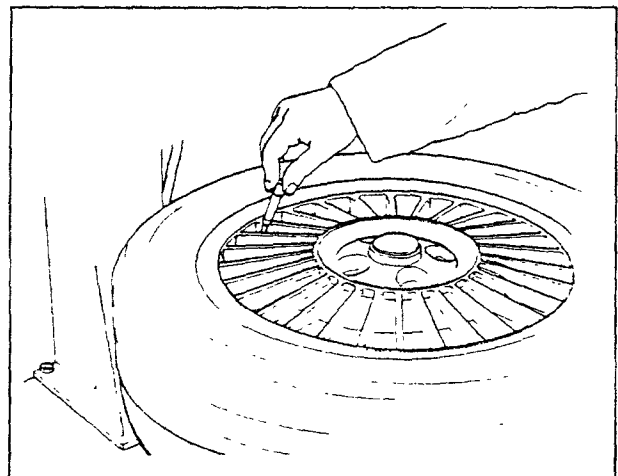

Fig.8
A. Remove the valve or core and deflate the tire (Fig.8). Remove all wheel weights.